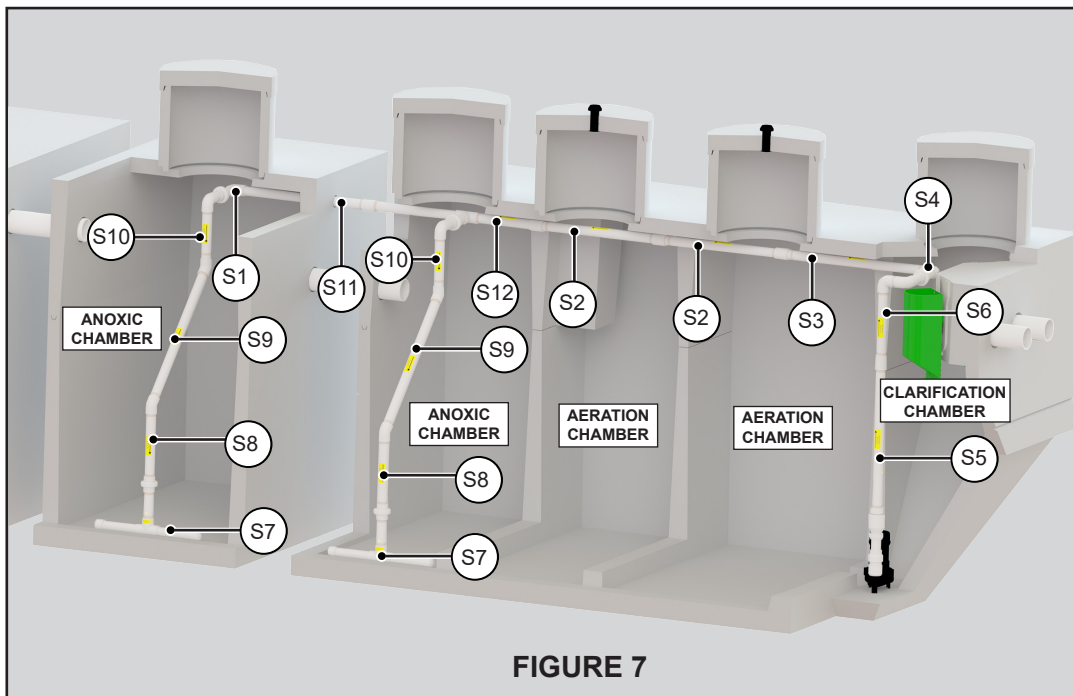

FIGURE 7
1. Thread subassembly S5 into the pump discharge as shown in Figure 7.
2. Solvent weld the coupling on subassembly S5 to subassembly S6. See Figure 7.
pump rests on the floor of the hopper as shown in Figure 7. Attach subassembly S4 to subassembly S6 at the union. Securely tighten the union by hand.
5. Attach subassembly S7 to subassembly S8 at union as shown in Figure 7. Securely tighten union by hand.
6. Solvent weld subassembly S8 to subassembly S9 as shown in Figure 7. Insure yellow arrows are aligned.
7. Solvent weld subassembly S9 to subassembly S10 as shown in Figure 7. Insure green arrows are aligned.
8. Bend mixing bar assembly at flexible tubing and lower into the first anoxic chamber until mixing bar is positioned as shown in Figure 7. Attach subassembly S10 to subassembly S1 at union. Securely tighten union by hand.
9. Assemble remaining subassemblies S7 through S10 as described in previous steps. Bend the mixing bar assembly at flexible tubing and lower into the second anoxic chamber until mixing bar is positioned as shown in Figure 7. Attach subassembly S10 to subassembly S12 at union. Securely tighten union by hand.